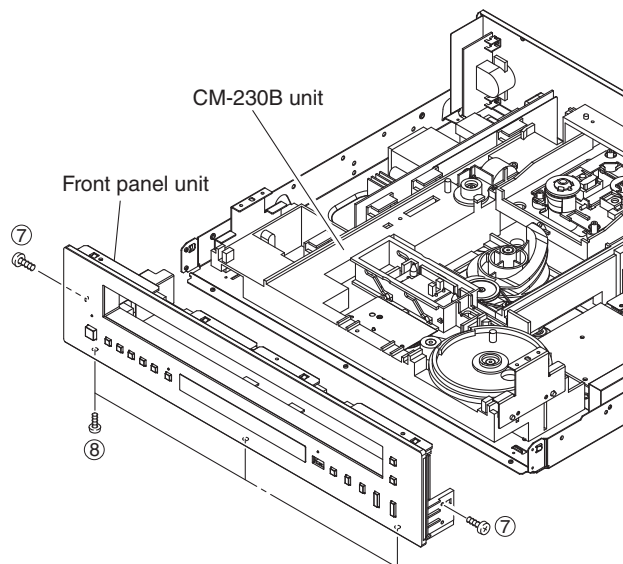

Fig. 6
- a. Remove 2 screws (⑦) and 3 screws (⑧). (Fig. 6)
- c. Remove the front panel unit. (Fig. 6)